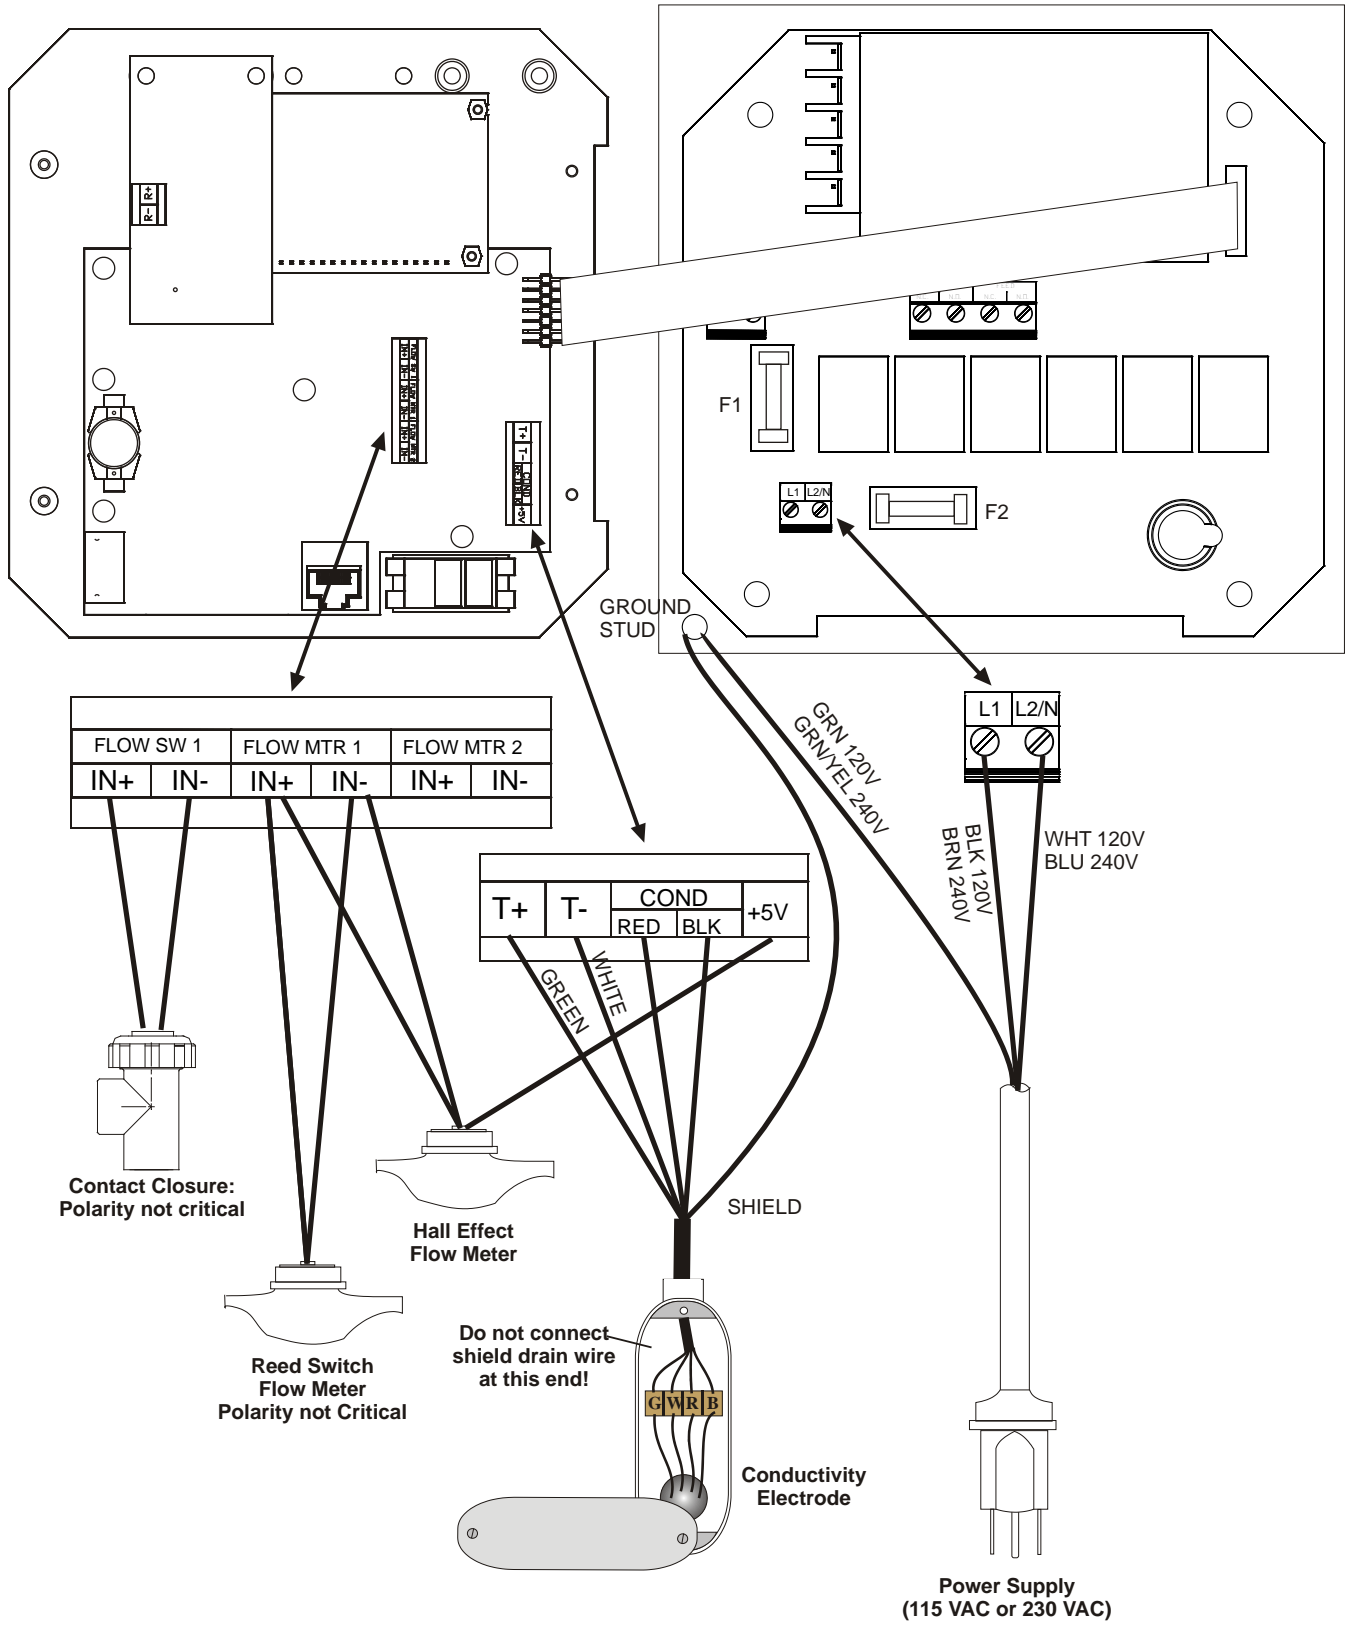

Figure 3 Inputs
The various standard wiring options are shown in figure 2. Your ABL series controller will arrive from the factory prewired or ready for hardwiring. Depending on your configuration of controller options, you may be required to hardwire some or all of the input/output devices. Refer to figures 3 and 4 for circuit board layout and wiring.
2. When wiring the optional flow meter contactor input, the 4-20 mA output or a remote flow switch, it is advisable to use stranded, shielded, twisted pair wire between 22-26 AWG. Shield should be terminated at the controller ground stud (see figures 3 and 4).